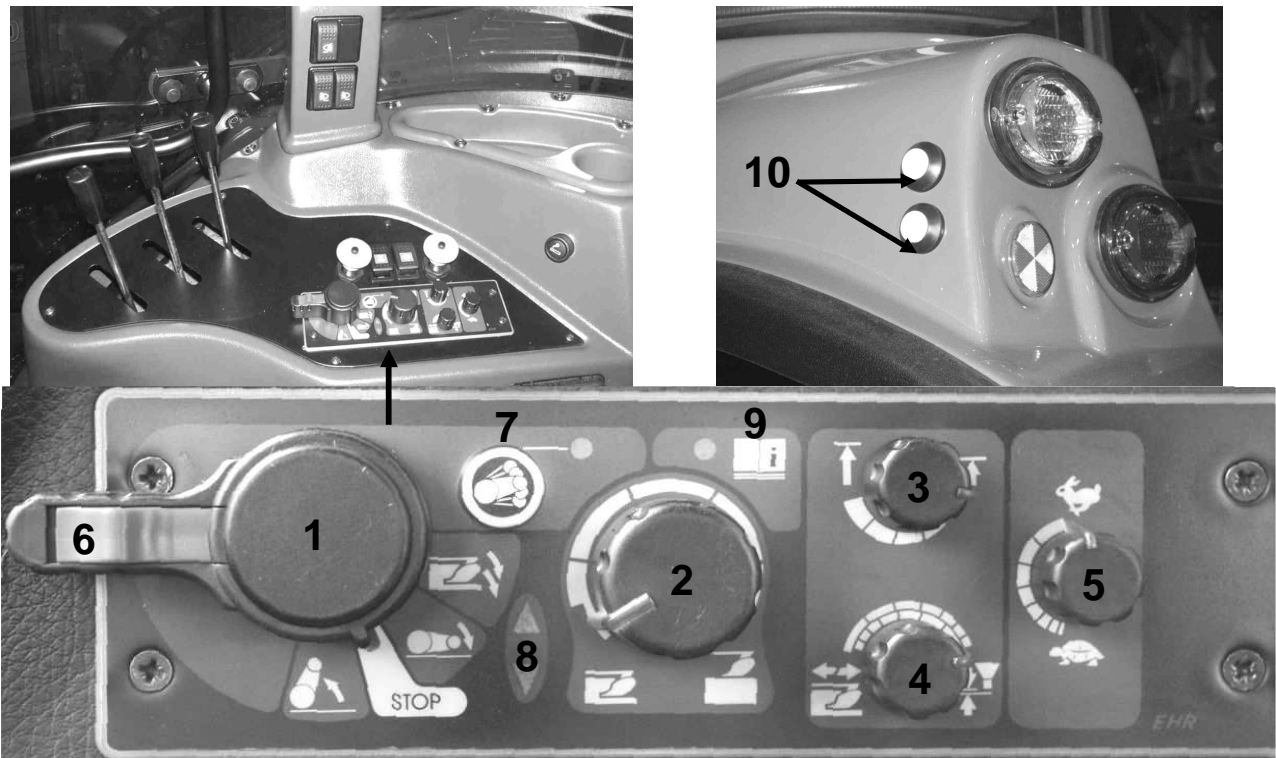

Figure 5-20 EHR electrohydraulic control system panel.
Control of the rear three point lift with the electro-hydraulic system is with the aid of the control pulpit (**Figure 5-20**) located on the right side of the seat and additional arm lift and lower buttons on the rear of the mudguards on right and left sides of tractor (**Figure 5-20, item 10**) (they are used during linking machines and agricultural implements).
- - using setting knob **4 (Figure 5-20)** - depending on the type of fieldwork, determine the means of implement adjustment (position, power or mixture);
ATTENTION: Do NOT use tractor in the event of hydraulic pump malfunction, if the light 8 (Figure 5-20) is not extinguished after lifting implement.
- lever **1** (Figure 5-20) set in "lifting" position (then implement is raised to the extreme upper setting) and button **6** to lock implement in transport position;
ATTENTION: Vibration suppression function acts only by setting of lever 1 (Figure 5-20) in "lifting" setting in transport position with button 6. During fieldwork (ploughing, cultivation etc.) vibration suppression function should be switched off.